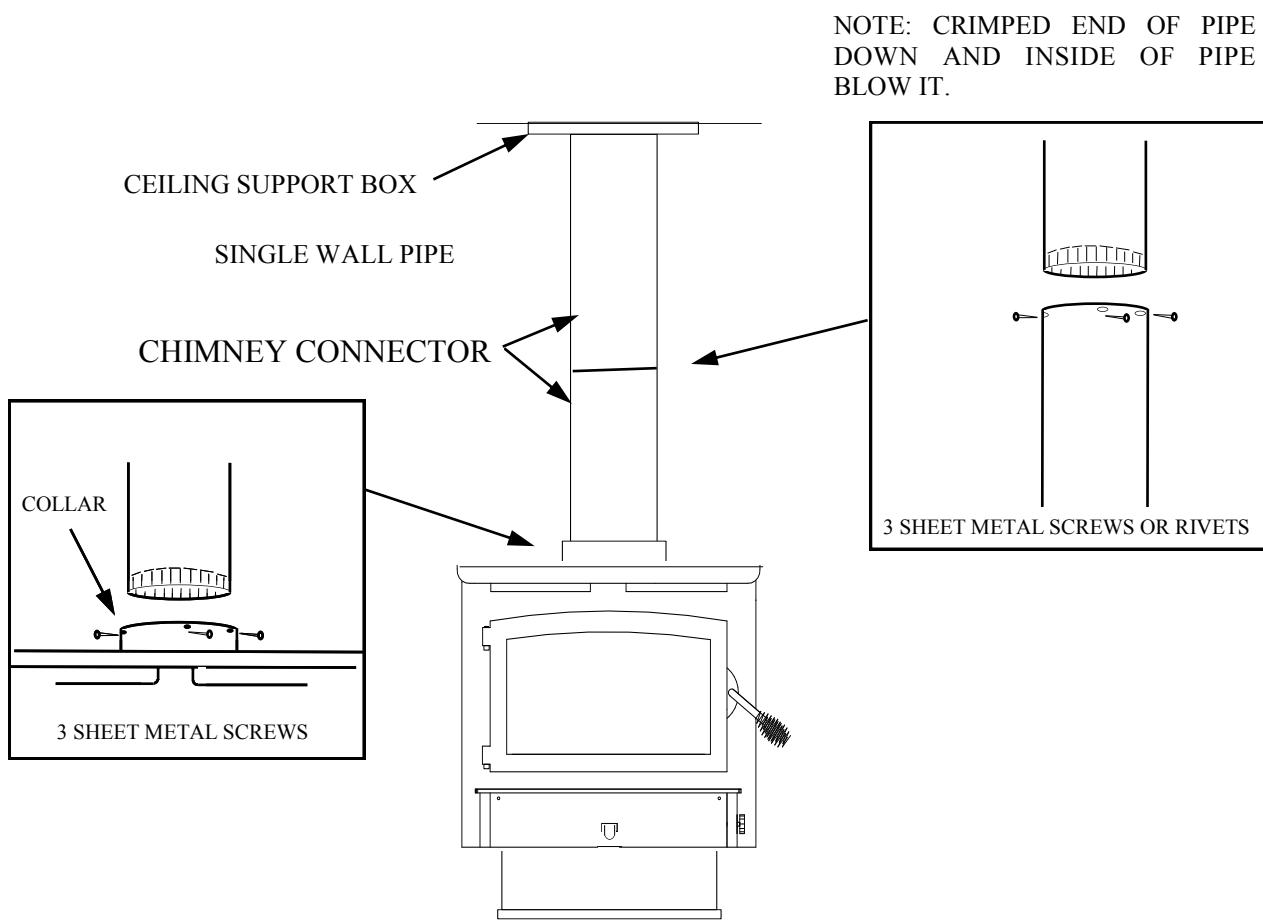

Fig 28
5. Using single wall chimney connector, connect heater to chimney by following manufacturer's installation instructions exactly. (See Figure 28).